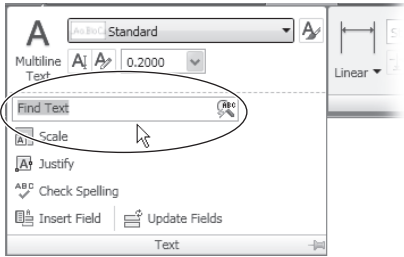

Figure 11.11
1. Open the Annotate tab's expanded Text panel to the Find Text input box, as shown in Figure 11.11.